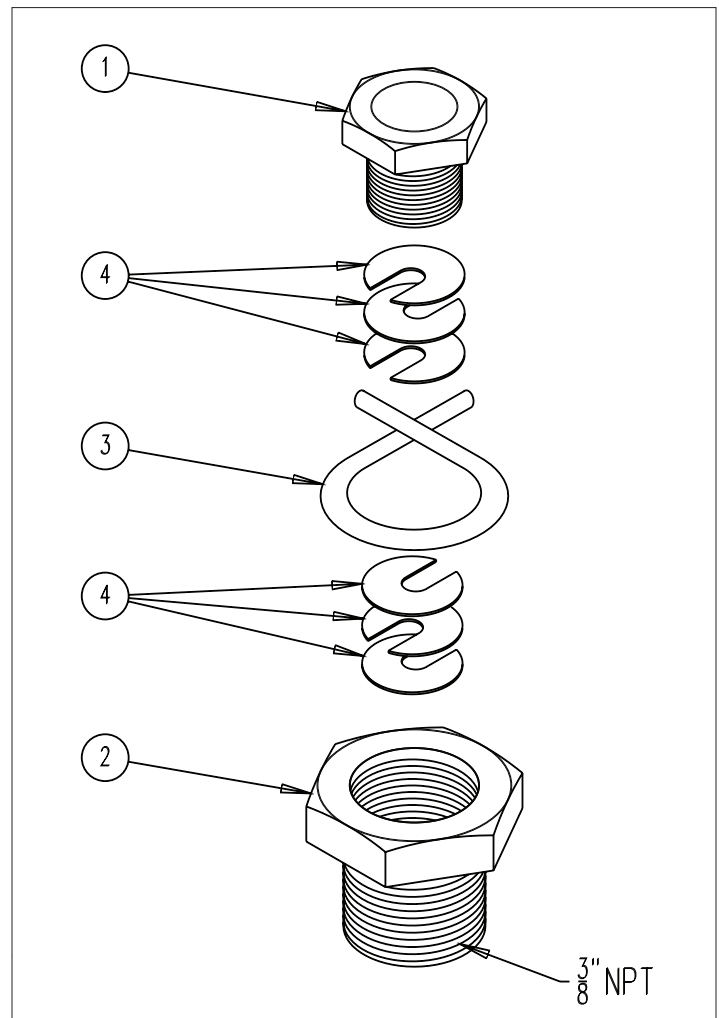

Figure 1
- 2.1 The parts included with this kit are shown in Fig. 1.
- 2.4 Drop 3 split washers around the capillary and down into the hollow of the large compressing fitting. It is very important for a liquid tight seal that the slots are positioned alternately 180° from each other per Fig.1.